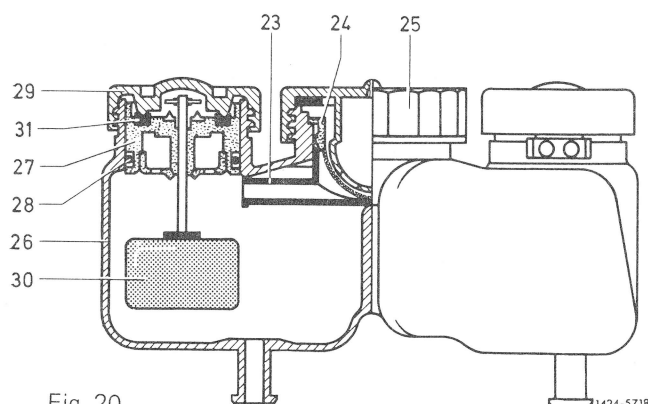

Fig. 20
37 On Teves-compensating tank 1st and 2nd version, insert both contact inserts (27) into compensating tank with new O-rings (28), mount O-rings (31) and screw on end cover (29) (Fig. 20).